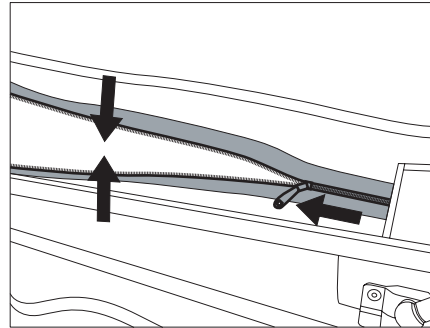

Fig. 39 Relieving the zip
- ▶ When closing the zip, pull down the pop-up roof so that the zip is not under tension (Fig. 39).
- ▶ Pull down the pop-up roof slightly and close the zip (Fig. 39).